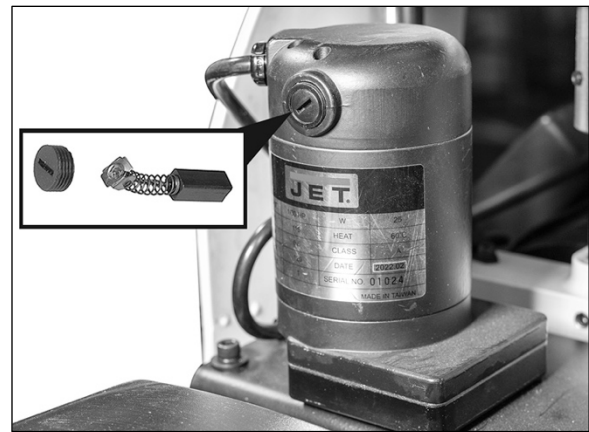

Figure 10-8
2. Unscrew and remove cap with flat blade screwdriver. See Figure 10-8.